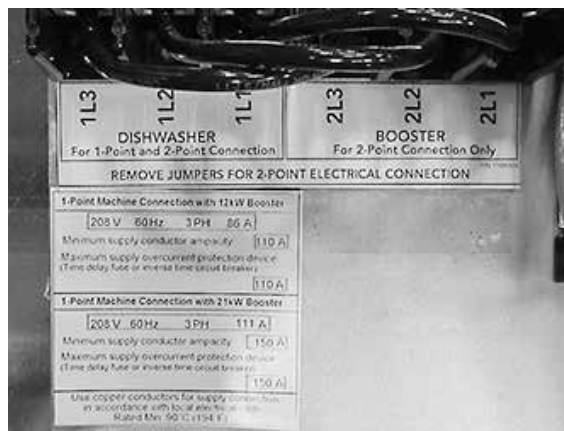
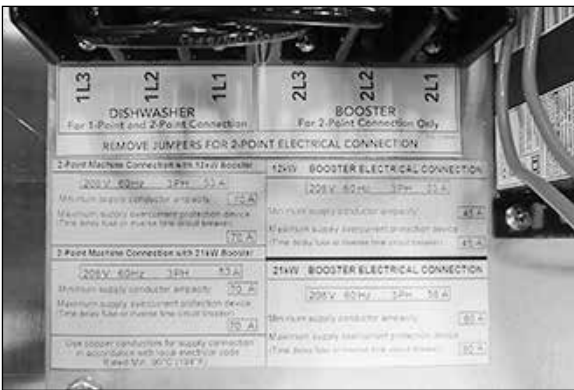

Fig.15 -
Fig.16 -
2. Cover the existing 1-point connection data plate, (Fig. 15), with the 2-point connection data plate, (Fig. 16), stowed in the plastic bag, (Fig. 17), next to the input terminal block.